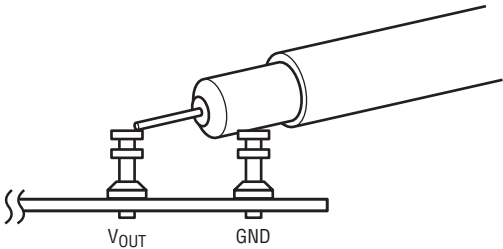

Figure 4. Measuring Input or Output Ripple
**NOTE.** When measuring the input or output voltage ripple, care must be taken to avoid a long ground lead on the oscilloscope probe. Measure the input or output voltage ripple by touching the probe tip directly across the  $V_{IN}$  or  $V_{OUT}$  and GND terminals. See Figure 4 for the proper scope technique.